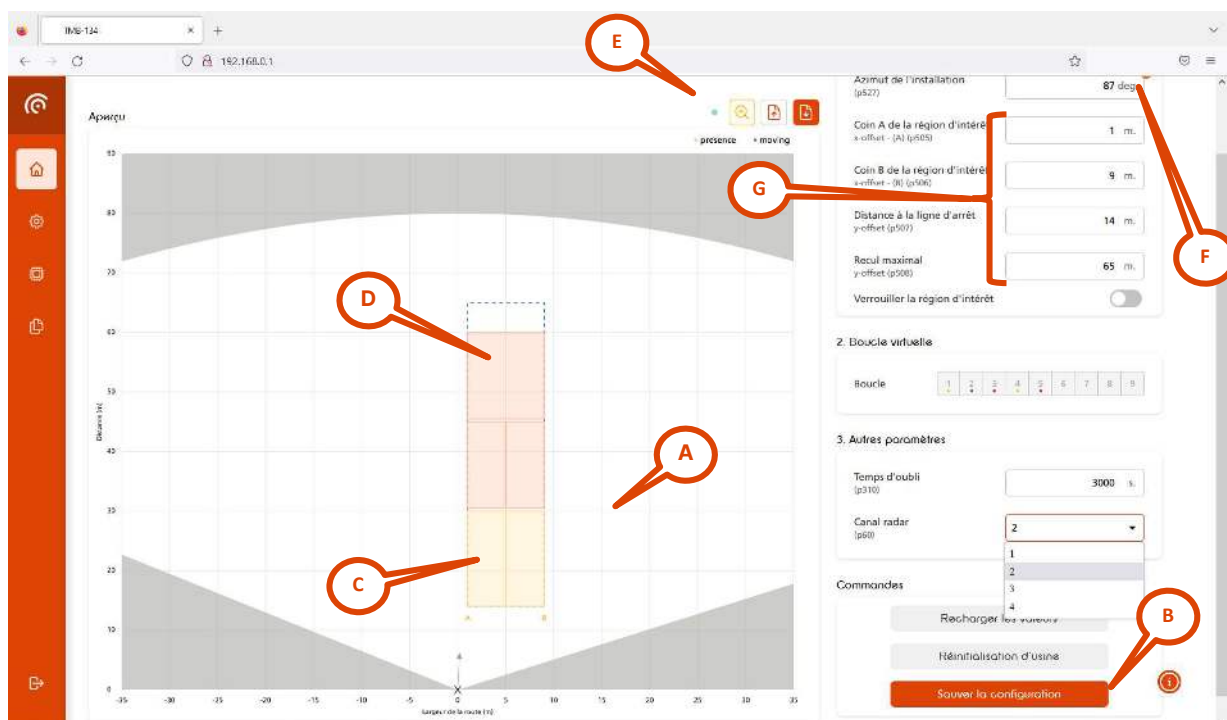
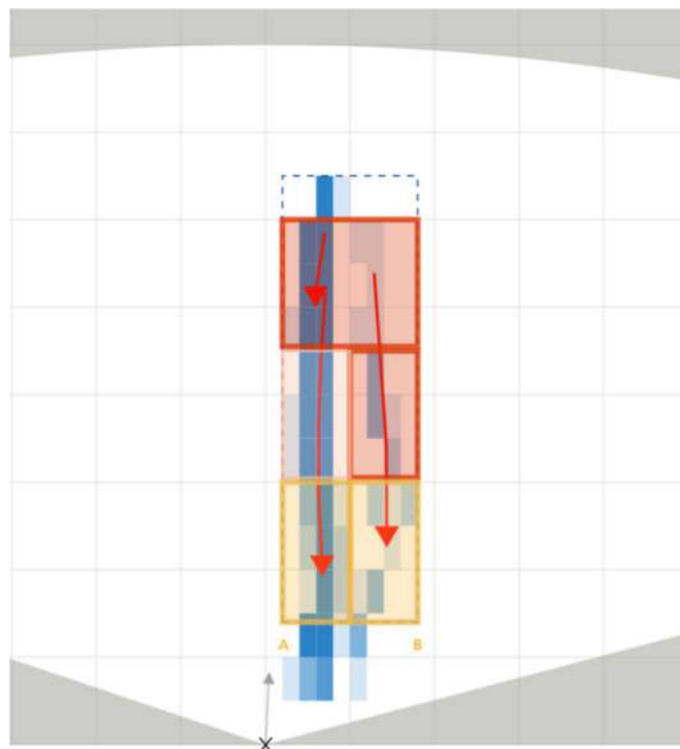

Figure 20: defining the region of interest
Figure 22: detected vehicles are shown and passed vehicles tracks are shown in blue
Alignment can be achieved by modifying the "azimuth" angle, displayed in degrees, as shown in Figure 20, reference F. Figure 22 shows the vehicle tracks that must be aligned vertically by changing the azimuth.
A significantly wrong azimuth value will reduce the actual target representation area and complicate the setup process, make sure to encode values that are close enough to reality. Also make sure that the ROI (Figure 20, mark **A**) is large enough at this stage to allow a sufficiently large portion of the representation space to be displayed and to facilitate the adjustment of the azimuth. If necessary, refer to title 5.2, p. 14, to enlarge the ROI.
The "Region Of Interest (ROI)" must then be defined depicted in blue dotted lines on Figure 20, mark **A** and to size this area as close as possible to the lanes to be monitored. The purpose of this
In the example hereabove (Figure 20), the parameters for ROI configuration are set as follows **(G)**:
- a. movement + presence (yellow-Figure 20 mark **(A)**) - Max. distance from the radar: 50 m.
- b. movement only (red - Figure 20 mark **(B)**)